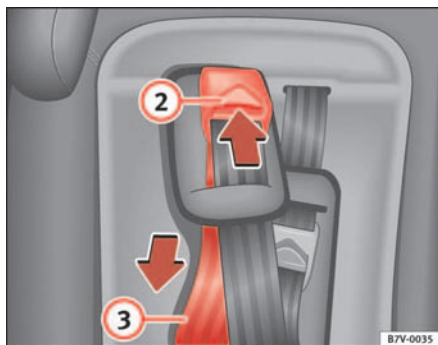

Fig. 39 Section of integrated child seat: Harness belt adjustment
- Press and hold the release button ⇒ fig. 39 (2) in the direction of the arrow.
- With the release button pressed, pull the lower part of the harness belt (3) down in the direction of the arrow. ■